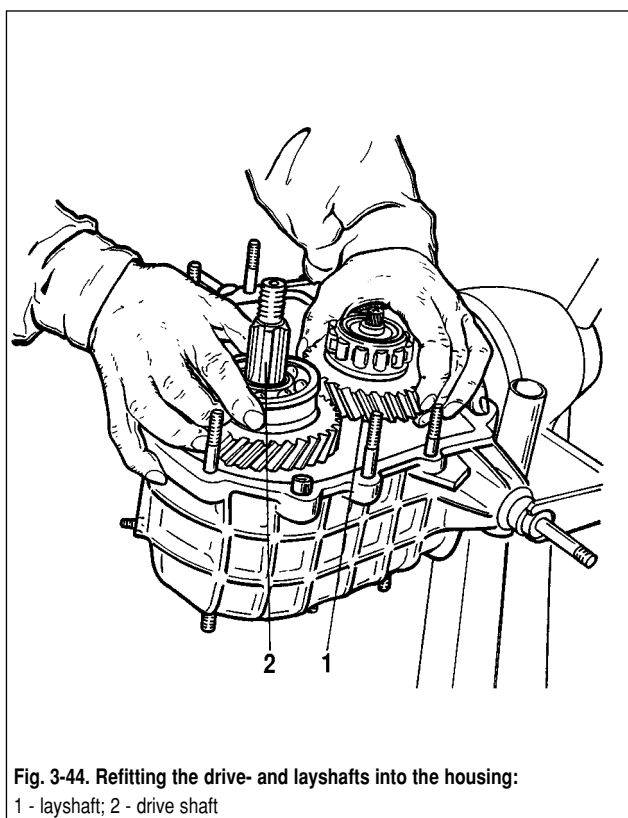

Fig. 3-44. Refitting the drive- and layshafts into the housing:
- drive- and layshafts are installed in the transfer box casing simultaneously (see fig. 3-44);